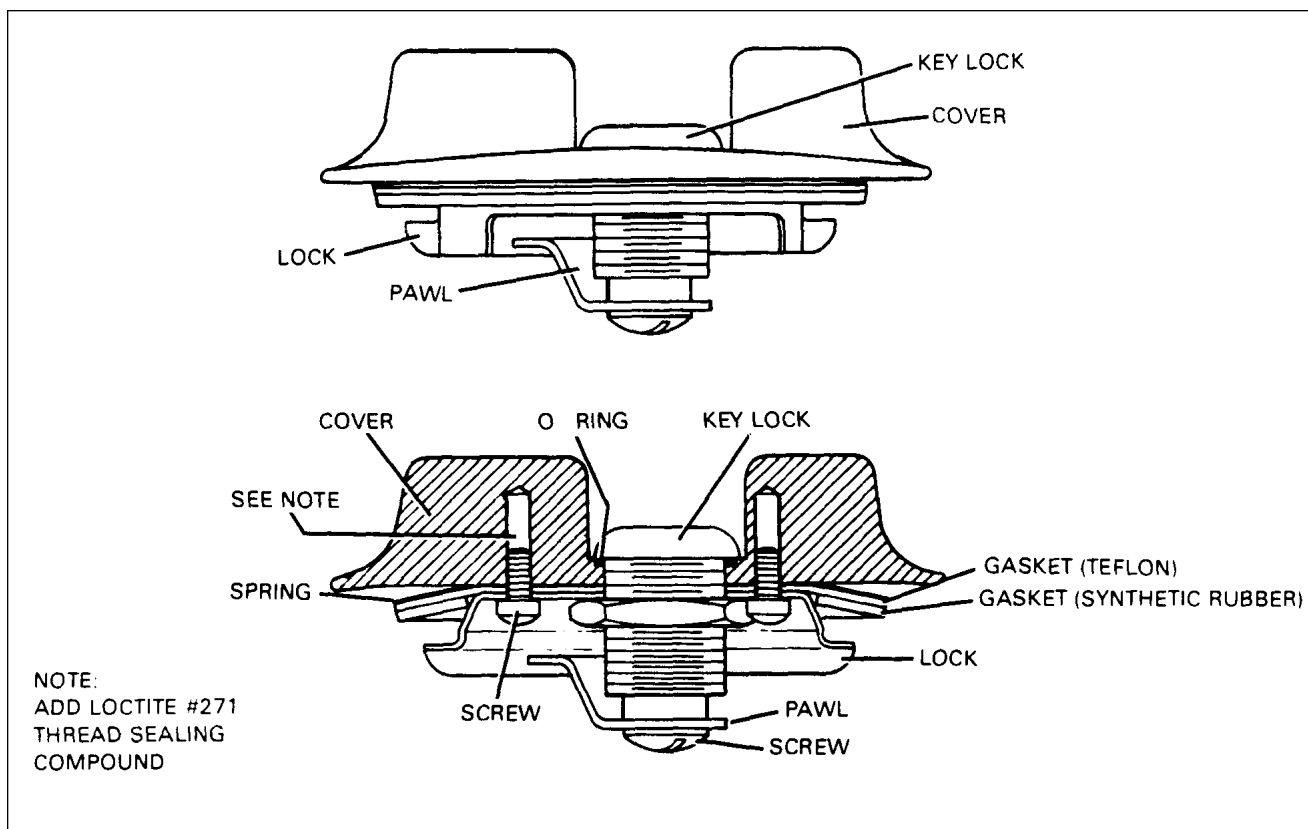

Figure 28-3. ArcherII Locking Gas Cap
a. Disassembly Of Locking Fuel Cap (Refer to Figure 28-3.)
- (1) Remove two screws on the back of fuel cap.
- (2) Remove screw holding pawl to the back of key lock assembly.
- (3) Remove pawl from the back of key lock assembly.
- (4) Remove nut holding key lock to cover. ‘
- (5) Slide lock, gasket, and spring over the back of key lock.
- (6) Push key lock through cover and remove key lock.